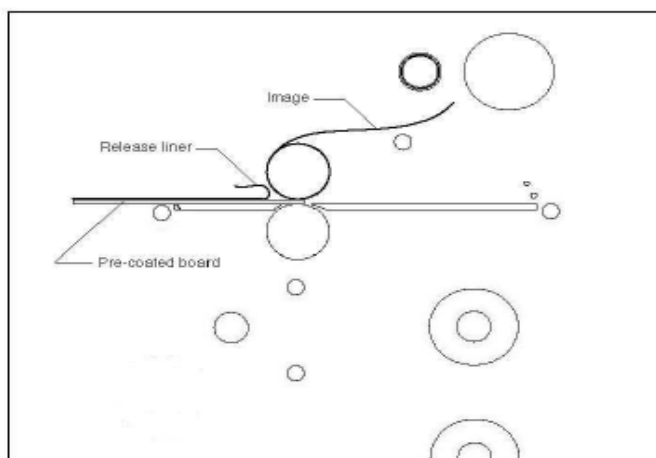

Fig. 32
TIPS FOR MOUNTING PRE-COATED BOARDS (Figure 32)
1. Load the laminator as illustrated in Figure 32.